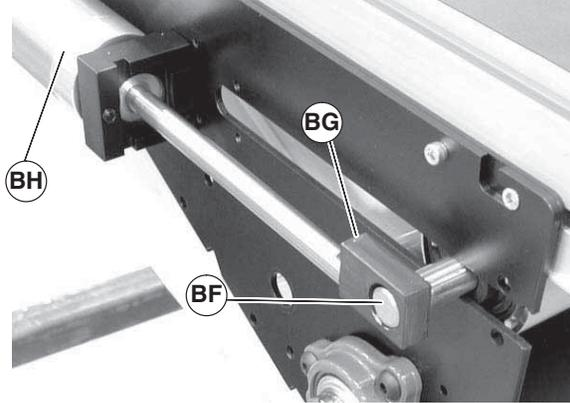

Figure 84
6. Push shaft (Figure 84, item BF) through block (BG) on opposite side of center drive, slide block toward air cylinder (BH).